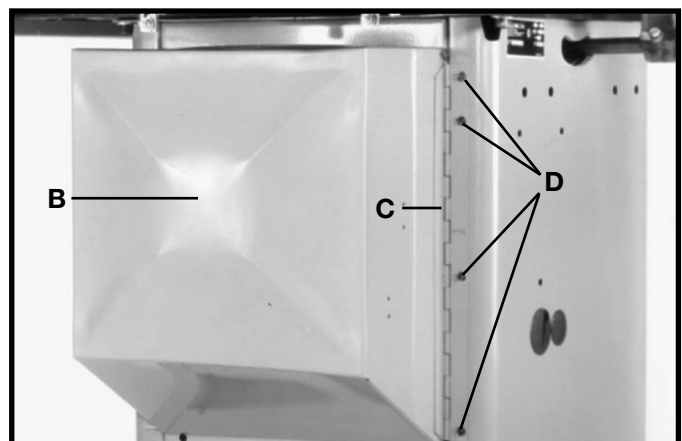

Fig. 41
2. Assemble hinged side (C) Fig. 41, of motor cover (B) to right side of saw cabinet using four 1/2" long self-tapping screws (D), as shown.